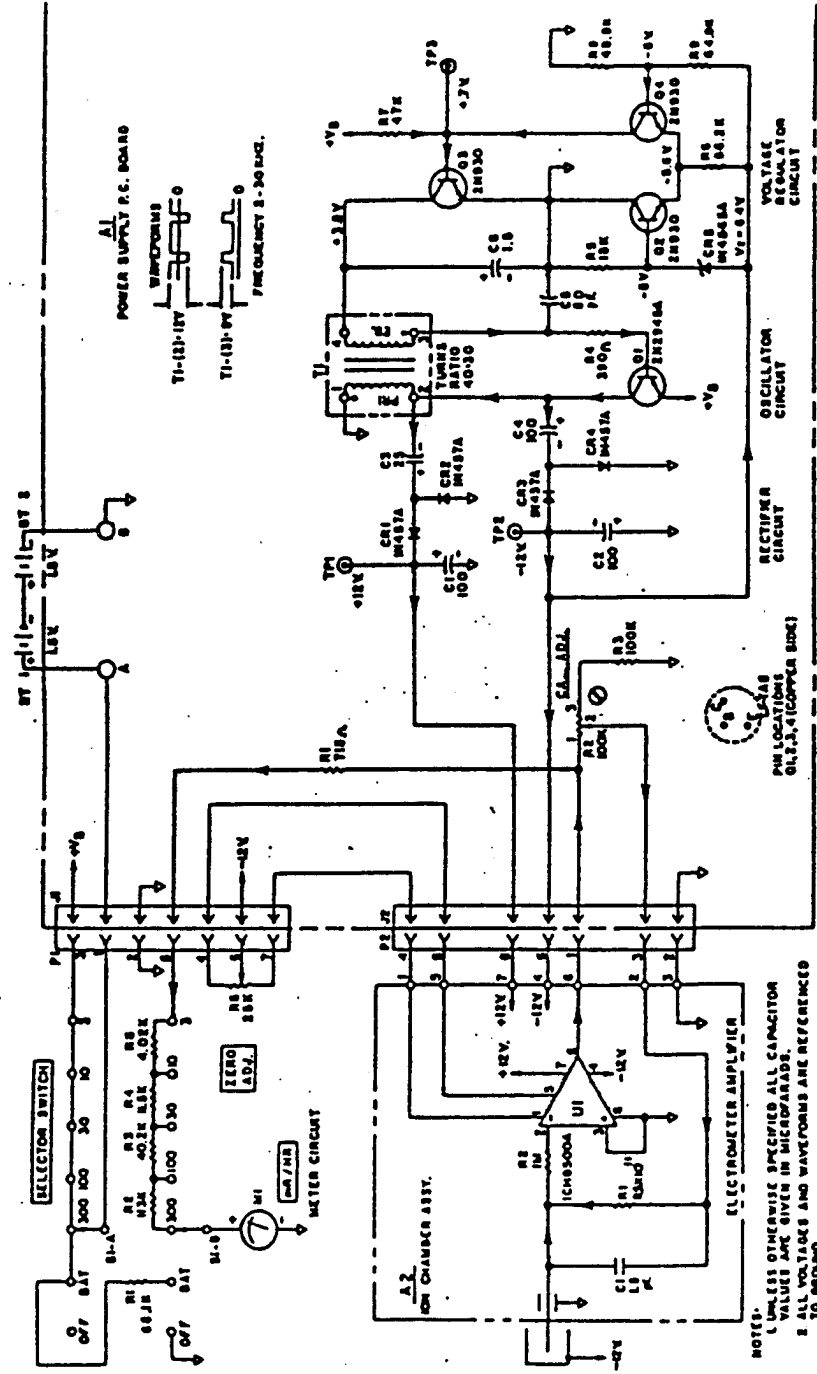

Figure 6-1. SM-400 Overall
a. SM-400 Overall Schematic (Figure 6-1). The complete schematic of the SM-400, including voltages and waveforms necessary for troubleshooting is provided in Figure 6-1.